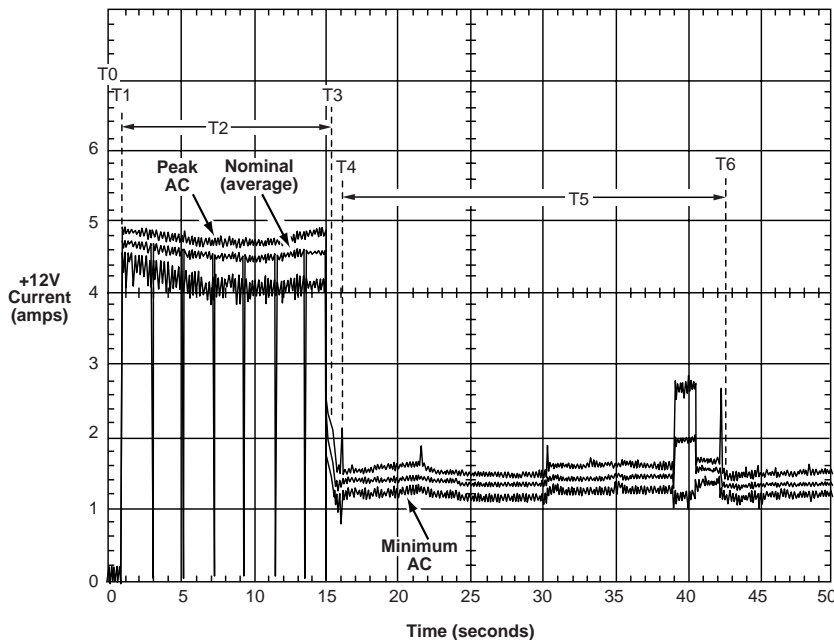

Figure 3. Typical Elite 47 drive +5 V and +12 V current profile
- [3] See +12 V current profile in Figure 3.
Figure 3 identifies the drive +5 V and +12 V current profile. The current during the various times is as shown.